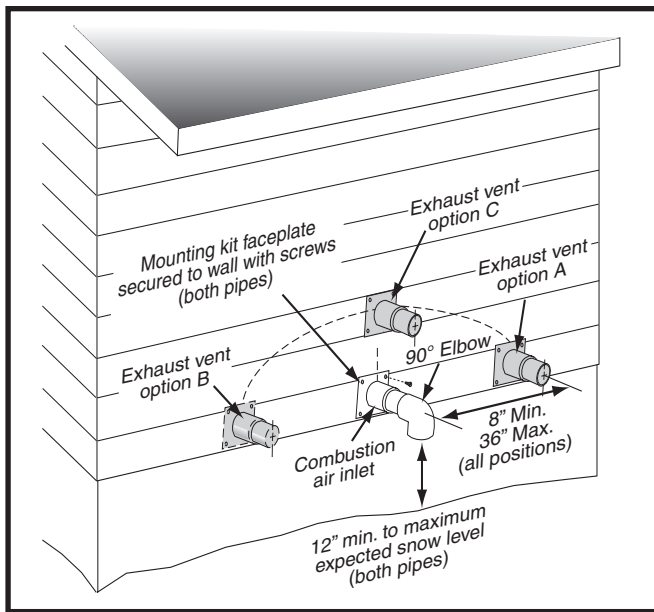
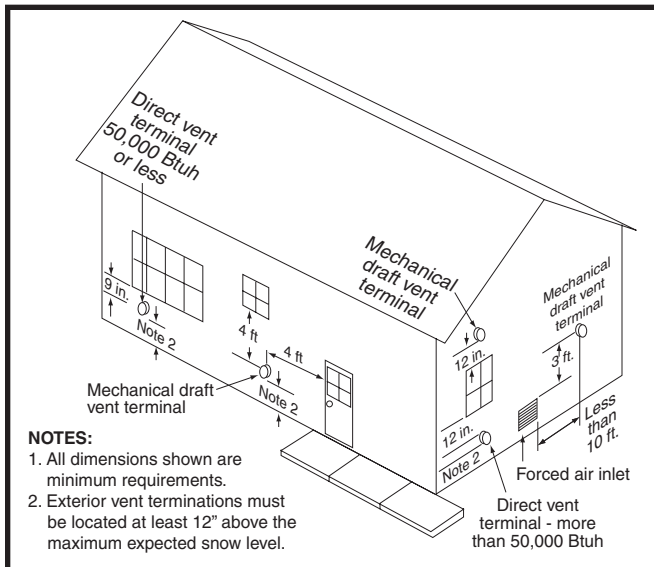
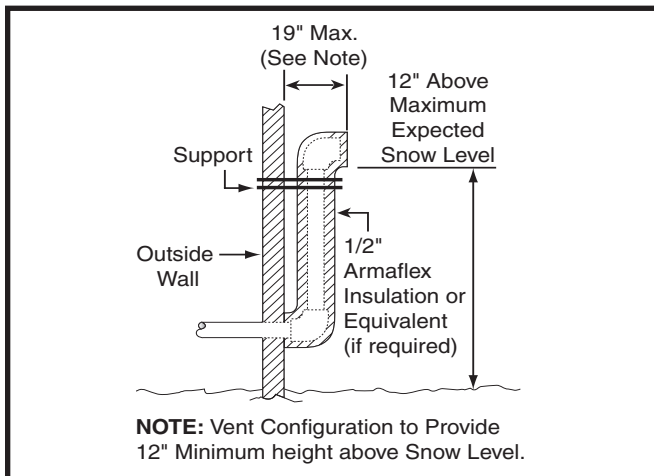
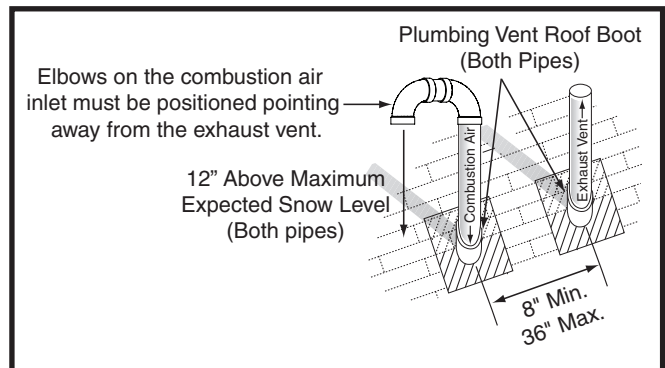

Figure 1. Inlet & Exhaust Pipe Clearances
Figure 2. Vent Locations
Figure 3. Alternate Horizontal Vent Installation
Figure 4. Vertical Vent Termination
- When a 2-pipe system is used, the combustion air intake and the vent exhaust must be located in the same atmospheric pressure zone. This means both pipes must exit the building through the same portion of exterior wall or roof as shown in Figure 1, Figure 2 & Figure 4 \(page 9\) and Figure 30 \(page 38\).
- Vent and combustion air intake terminations shall be installed as shown in Figure 1, Figure 2, Figure 3, & Figure 4 and in accordance with these instructions:
- All minimum clearances (Figure 2) must be maintained to protect building materials from degradation by flue gases.
- When the vent pipe must exit an exterior wall close to the grade or expected snow level where it is not possible to obtain clearances shown in Figure 1, a riser may be provided as shown in Figure 3. Insulation is required to prevent freezing of this section of pipe. See Table 3, (page 10) for vent freezing protection.
Termination spacing requirements from the roof and from each other are shown in Figure 4. The roof penetration must be properly flashed and waterproofed with a plumbing roof boot or equivalent flashing. Vent and combustion air piping may be installed in an existing chimney which is not in use provided that:
- The termination clearances shown in Figure 4 are maintained.